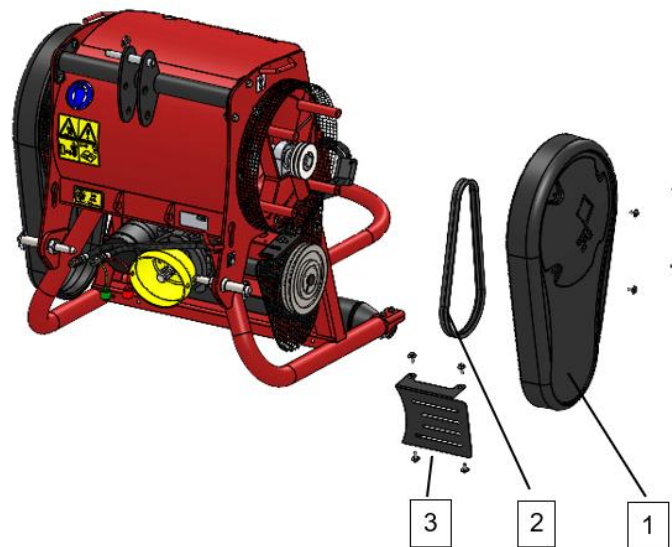

Fig. 13
3. Make the gearbox accessible by removing the side cover, V-belts, and drive cover. Tilt the tensioner forward. See (Fig. 13) and the parts page for details.